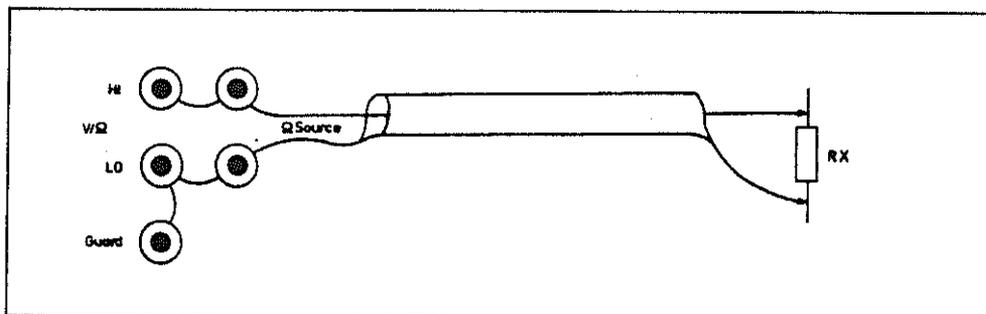

Fig. 6.2.1 Two-wire resistance measurement
The measuring configuration of Fig. 6.2.1 gives acceptable readings only within a resistance range which is restricted by an upper and lower limit. Leakage current problems arise with large resistance values, due to the parallel connection of  $R_x$  and the cable insulation resistance. With low resistances, particularly in the 100 Ohm range, the series resistance of the connecting leads causes an appreciable error. A four-wire measuring configuration is recommended for these ranges.
The polarity of the current flowing through Rx has been chosen such that the end of Rx which is connected to the upper socket of the "Ohm-Source" output has a negative potential with respect to the other end of Rx. Always make sure that the end of the resistance Rx which is connected to the upper (HI) socket of the "Ohm-Source" output is also connected to the upper (HI) socket of the "V/kOhm" input (see Fig. 6.2.1 to 6.2.3). The analogous rule holds for the lower sockets.